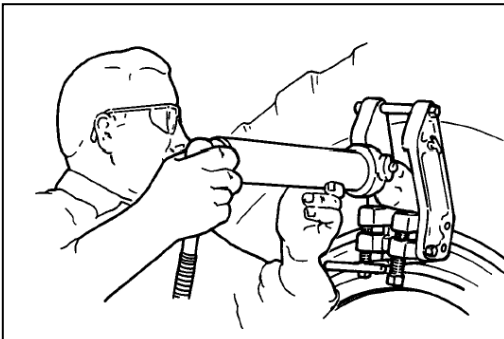

Figure 4
4. Lift cylinder until trunion engages frame shoulder and move stop screw into support cylinder. See Figure 4.